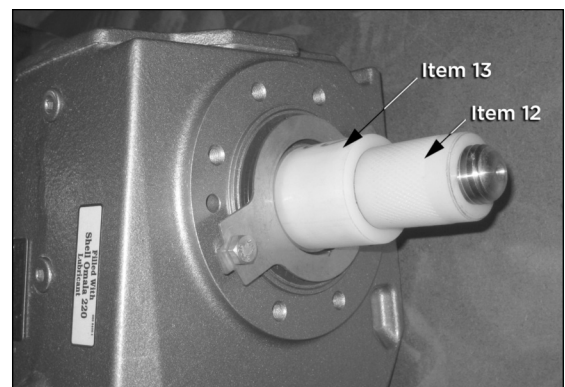

Figure 14
12. Slide the nylon locking knob (item 12), unthreaded end first, onto the threaded end of the shaft until the shaft comes into contact with the threading on the locking knob. Screw the locking knob onto the shaft until it comes into contact with the nylon spacer. The locking knob must be tightened and kept tight. (A vise grip or channel-lock pliers may be used; however, over-tightening will damage the knob and possibly the seal and/or snap ring as well.) See Figure 14.